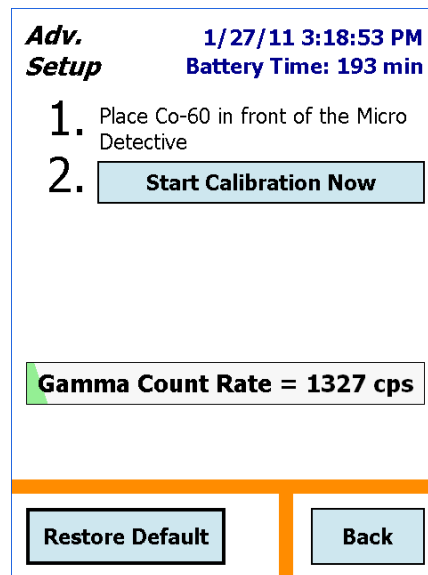

Figure 18. Tap the “Start Calibration Now” Button.
- Position the indicated source (in this case, ⁶⁰Co) in front of the detector window, then tap the **Start Calibration Now** (Fig. 18) button.